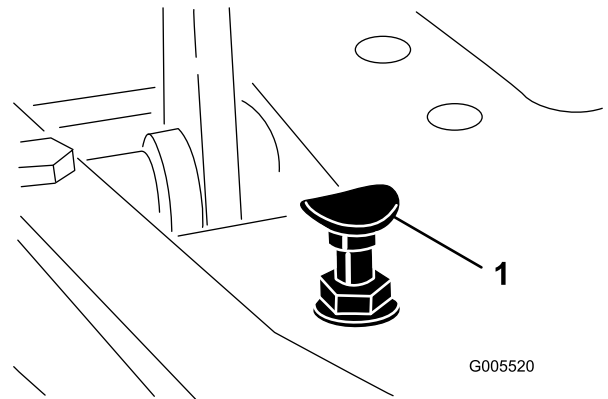

Figure 43
To obtain the maximum-transport speed, put the functional control lever in the TRANSPORT position and press down on the traction pedal. If the pedal contacts the stop (Figure 43) before you feel tension on the cable, perform the following adjustment procedure:
1. Put the functional-control lever in the TRANSPORT position and loosen the locknut securing the pedal stop to the floor plate (Figure 43).